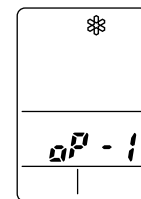

Fig. 8b
- After a few seconds, "※" appears and "oP-1" blinks in the remote controller display area. (Fig. 8b)